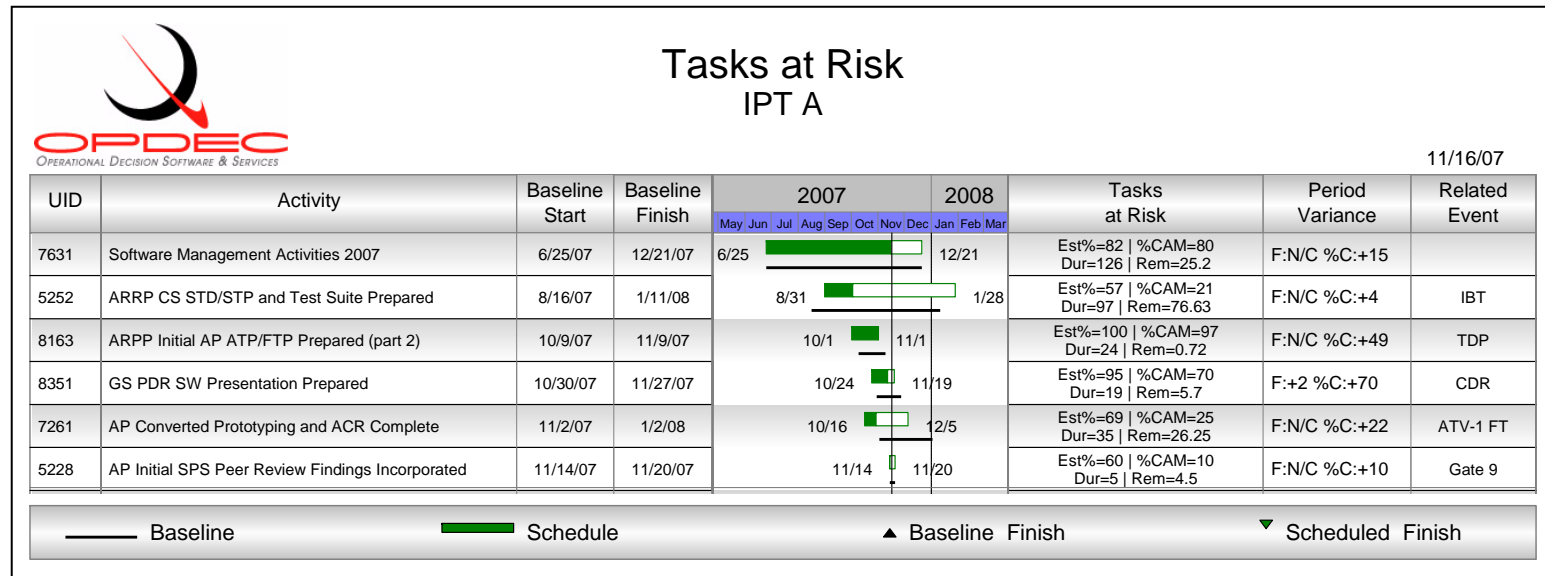

Figure 16
The Tasks at Risk report is designed to show activities whose % Complete variance exceeds the threshold given. This variance is computed by subtracting the Activities' % Complete from the CAM % Complete. Using the default Milestone Professional template 'Task at Risk.mtp', the following report example was created (Figure 16).
- **Tasks at Risk:** This column depicts the reason why the task is at risk. In the example above (Figure 16) UDI 7631 is at risk because it's estimated % complete is 82 while the specified CAM % complete is only 80. Now this may not seem like a large enough variance to warrant the task at risk, but for this report our variance threshold was set to zero (see **Tasks at Risk Threshold** from the settings section). If we were to allow a variance threshold of +-5, then this activity would not have shown at risk. The Task at Risk column also shows what the duration of the task is compared to the duration remaining.